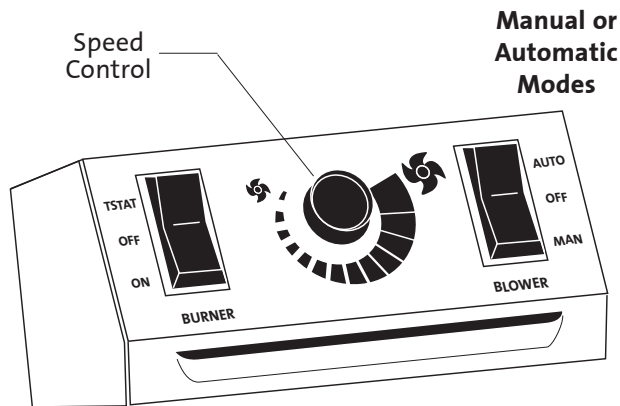

Figure 36. Blower Controls
8. **Reinstall the Logset.** Refer to the Owner's Manual if necessary. **BE CERTAIN THAT NO EMBER STONES ARE BLOCKING THE PILOT ASSEMBLY OPENING.** Refer to fig. 36.